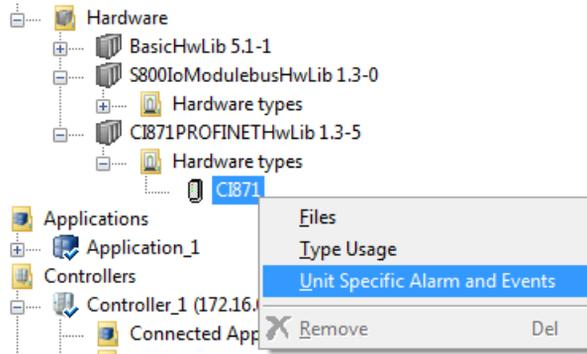

Figure 199. Accessing the Unit Specific Alarm and Events option
2. Right click the required hardware type and select **Unit Specific Alarm and Events** (see Figure 199).